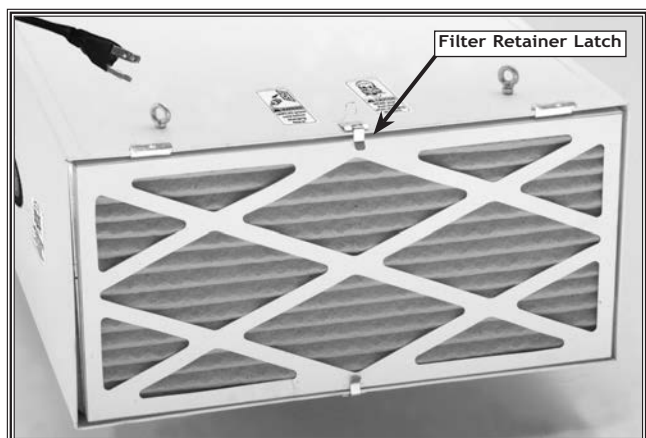

Figure 14. 5-Micron primary filter.
2. Move the filter retainer latch upward, remove the primary filter and discard it. See Figure 14.